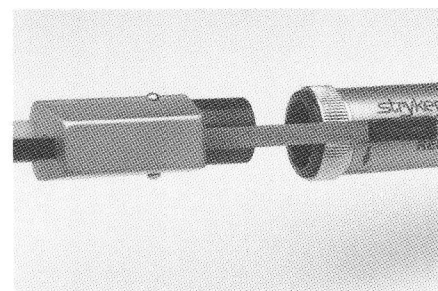

Figure 7
2. Align orientation mark of handpiece with handswitch cable orientation mark under the slide bar. See Figure 7.